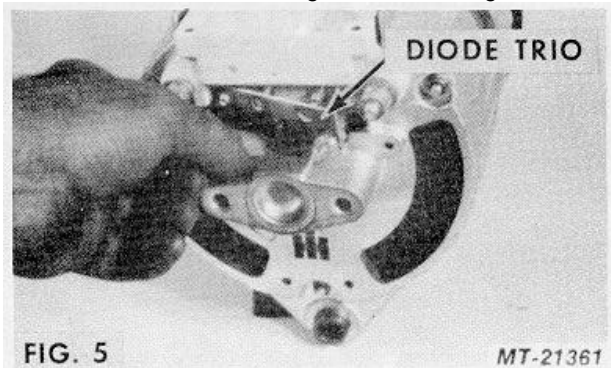

FIG. 5
5. Remove three nuts and lift diode trio off of A/C terminal studs (see Fig. 5)